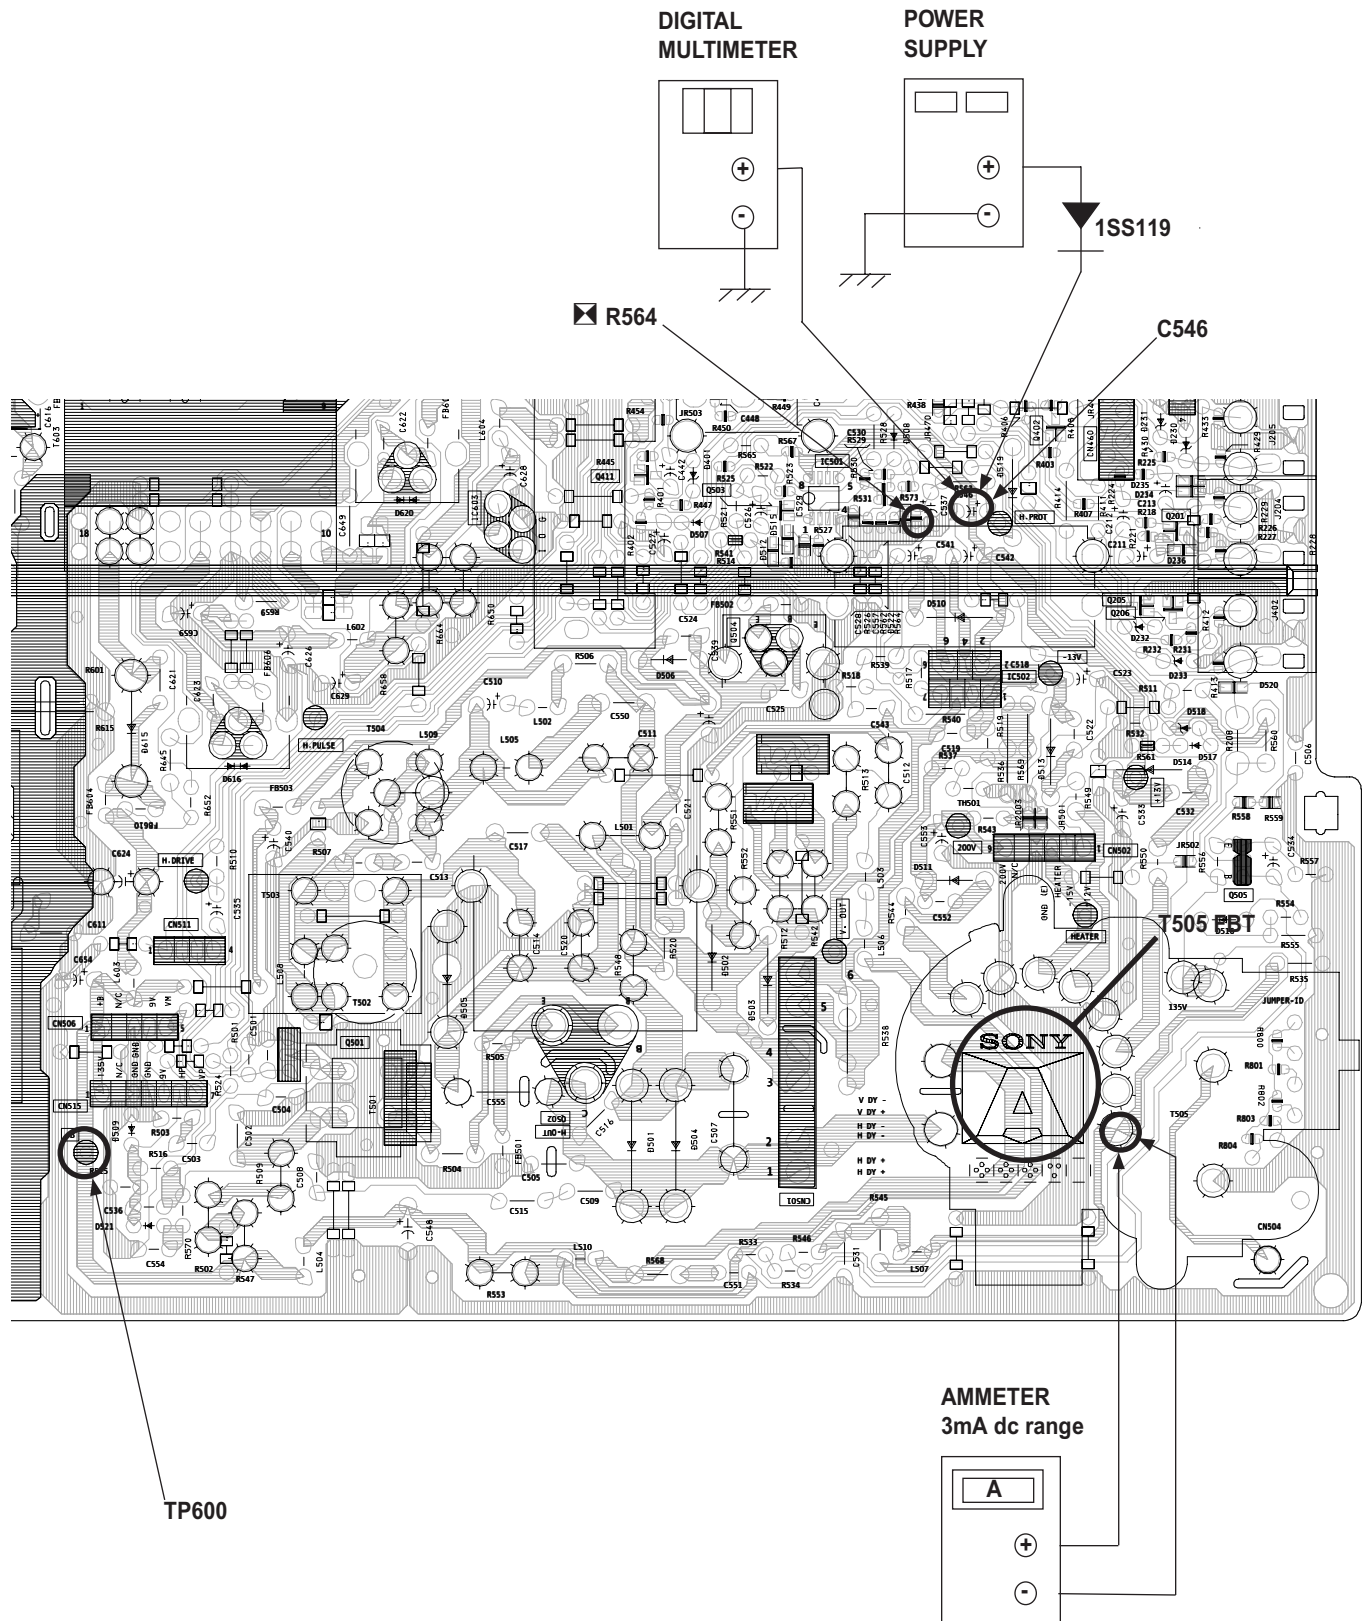

Figure 1
- Connect the current meter between Pin 11 of the FBT (T505) and the PWB land where Pin 11 would normally attach (See Figure 1 on the next page).
- Connect the digital voltmeter and the DC power supply via Diode 1SS119 to C546 (+) and ground (See Figure 1 on next page).